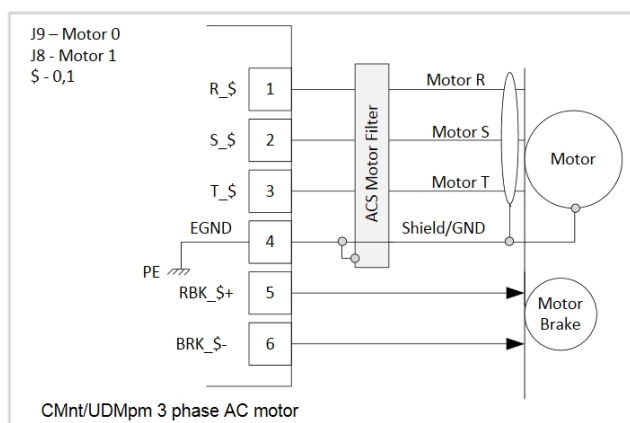

Figure 1-28. Three-phase motor connection
A three-phase motor connection is depicted in Figure 1-28. An optional motor filter is shown in series between the drive and the motor. Use a shielded cable, terminated in the EGND pin which is internally connected to the chassis (PE). If needed, the shield/GND may be connected to the motor's chassis to provide a seamless common ground reference.